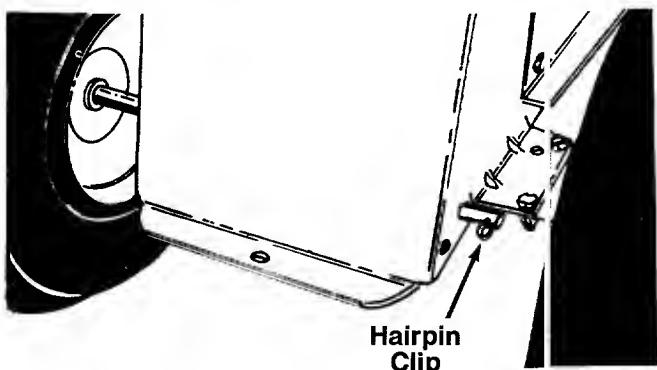

FIGURE 4.
3. Remove the two hairpin clips from the shaft on the rear of your tractor. See figure 4. These will be reassembled in steps 4 and 7.